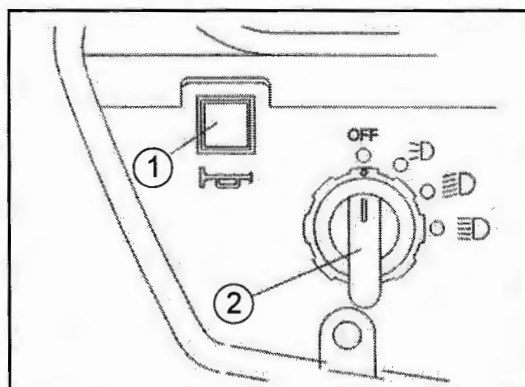

Fig. 12-4 - Light Control Switch
9. **Light Control Switch -** The light control switch (1) operates the headlights and taillights in the following positions.. (See Fig. 12-4).